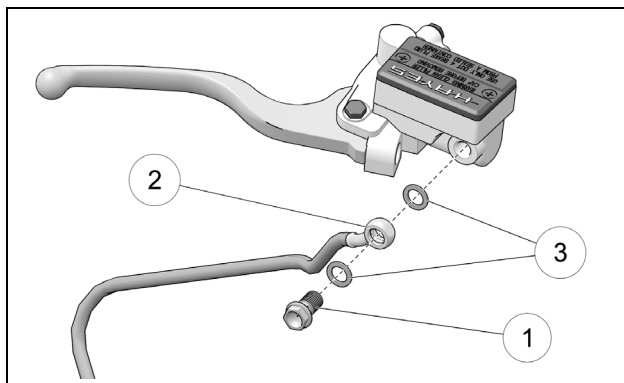

Figure 36
- Insert banjo bolt (1) in end of brake line (2) making sure to install the copper crush washers (3) against both sides of the brake line banjo end. See Figure 36.